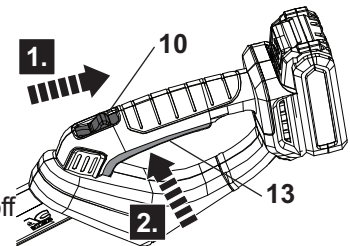

Fig. 12
1. Ensure the cutting device (blade) (1) does not touch any objects. Remove the blade cover (14) from the cutting device (blade) (1) before switching the product on.
2. Hold the product with one hand on the soft grip (8a) of the front pole (8) and the other hand on the rear handle (11).
3. Pull back the lock-off button (10) and hold it in position (Fig. 12, step 1).
4. Squeeze the on/off switch (13) to switch the product on (Fig. 12, step 2). Release the lockoff button (10) afterwards.
5. Release the on/off switch (13) to switch the product off.